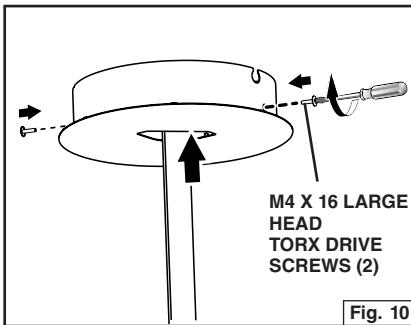

Fig. 10
4. Install the ceiling canopy and attach with (2) M4 x 16 large head torx drive screws. Fig. 10. (You will need to remove it when making electrical connections.)